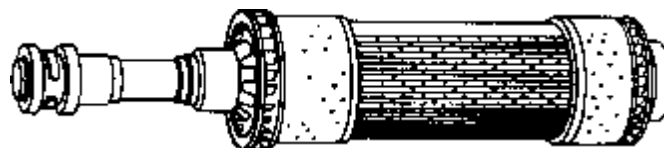

Figure 17
- used in large, high speed (3000rpm), steam turbine driven alternators. See figure 17.